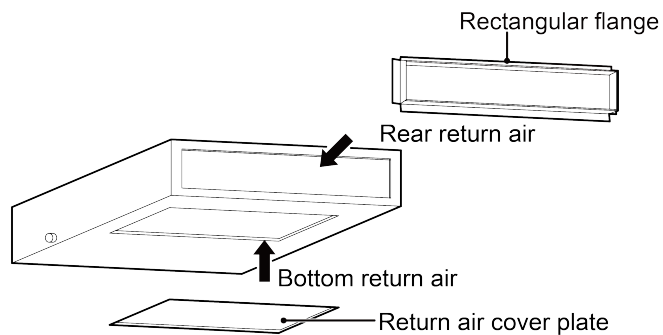

Fig.4.4.9
(1) Square flange is defaulted to be fitted on the back before ex-factory. Air-return cover is on the bottom, as shown in Fig.4.4.9.